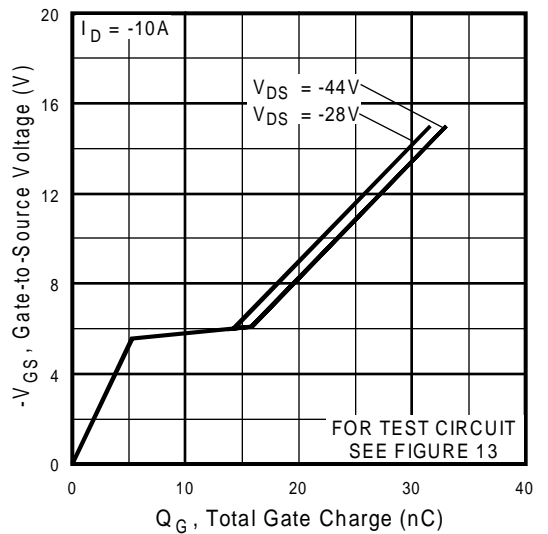

Fig 6. Typical Gate Charge Vs. Gate-to-Source Voltage
| Q_{gd} | Gate-to-Drain ("Miller") Charge | — | — | 16 | | $V_{GS} = -10V$, See Fig. 6 and 13 ④⑤ |